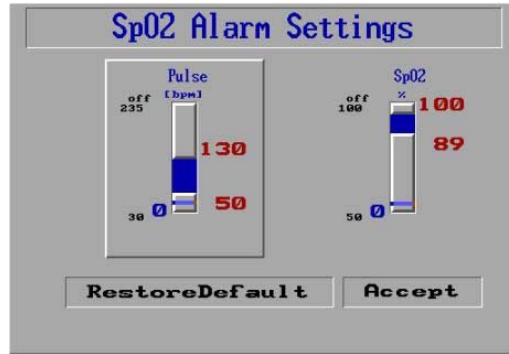

Figure 120: SpO2 Alarms Settings Screen
1. From the **Pulse Oximetry** screen, use the Control Knob to select **Alarm Settings**. The **SpO2 Alarm Settings** screen appears (Figure 120).